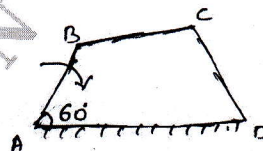

Fig. Q4
- 4 A pin jointed four bar mechanism 'ABCD' is shown in Fig. Q4. $AB = 150$ mm, $BC = 180$ mm, $CD = 180$ mm and $AD = 300$ mm. Link AB rotates uniformly at 100 rpm. Locate all the instantaneous centers and find the angular velocity of Link BC and Linear velocity of Link CD. (20 Marks)